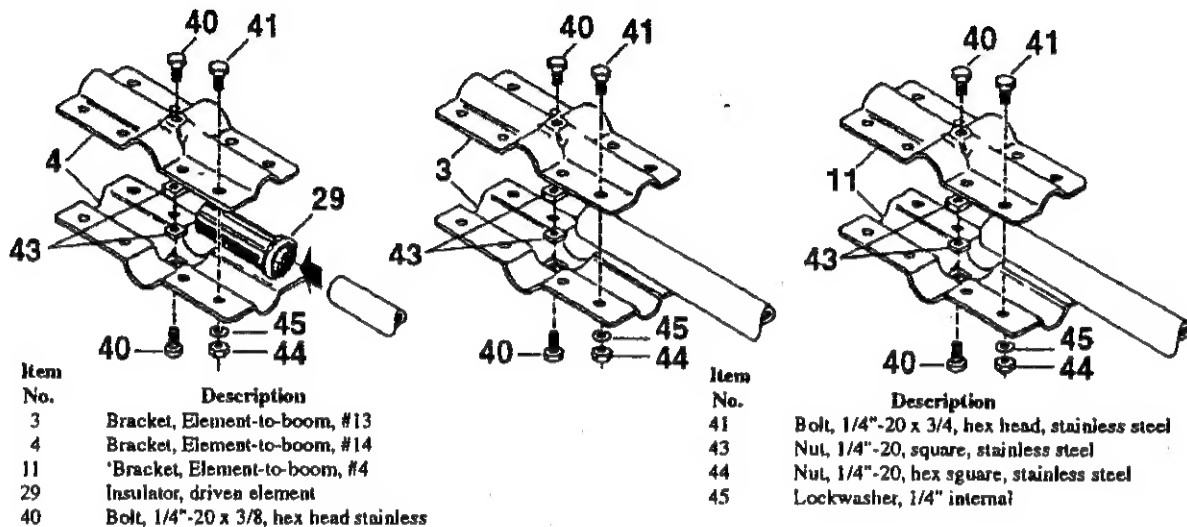

Figure 2
Assemble the brackets as shown in Figure 2 and position them on the boom as shown in Figure 8. It is easier to assemble the brackets on the boom at the correct location, rather than try to slide them on the boom. If you are going to leave this assembly unattended for more than 15 minutes, we suggest that you tighten the eight (8) bolts on each bracket, so that they do not vibrate off. Do not tighten the two (2) anchor bolts (Item 40) until the elements are installed and aligned.